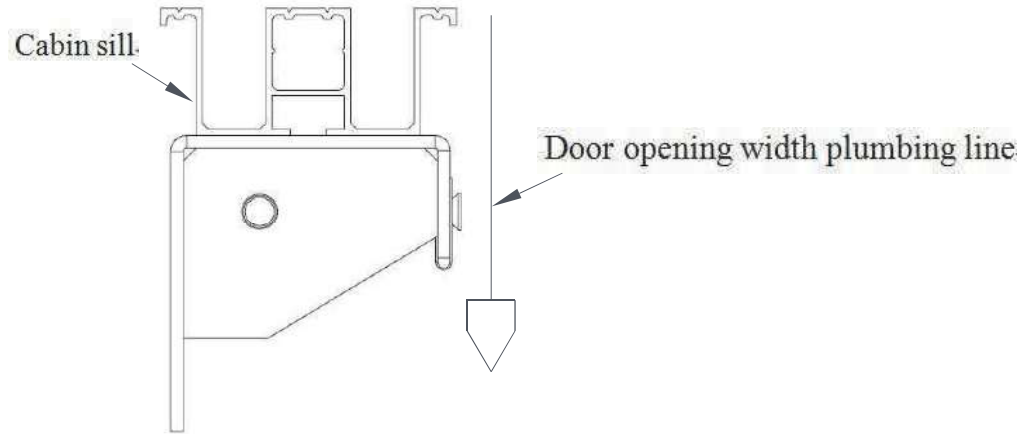

Figure 5-2-3 Sill and vertical line
- d) Adjust the distance between the section of sill and the center of the vertical line, so that the outer section of the sill overlaps with the door opening width vertical line, refer to Figure 5-2-3. Bolted the sill and the sill bracket.